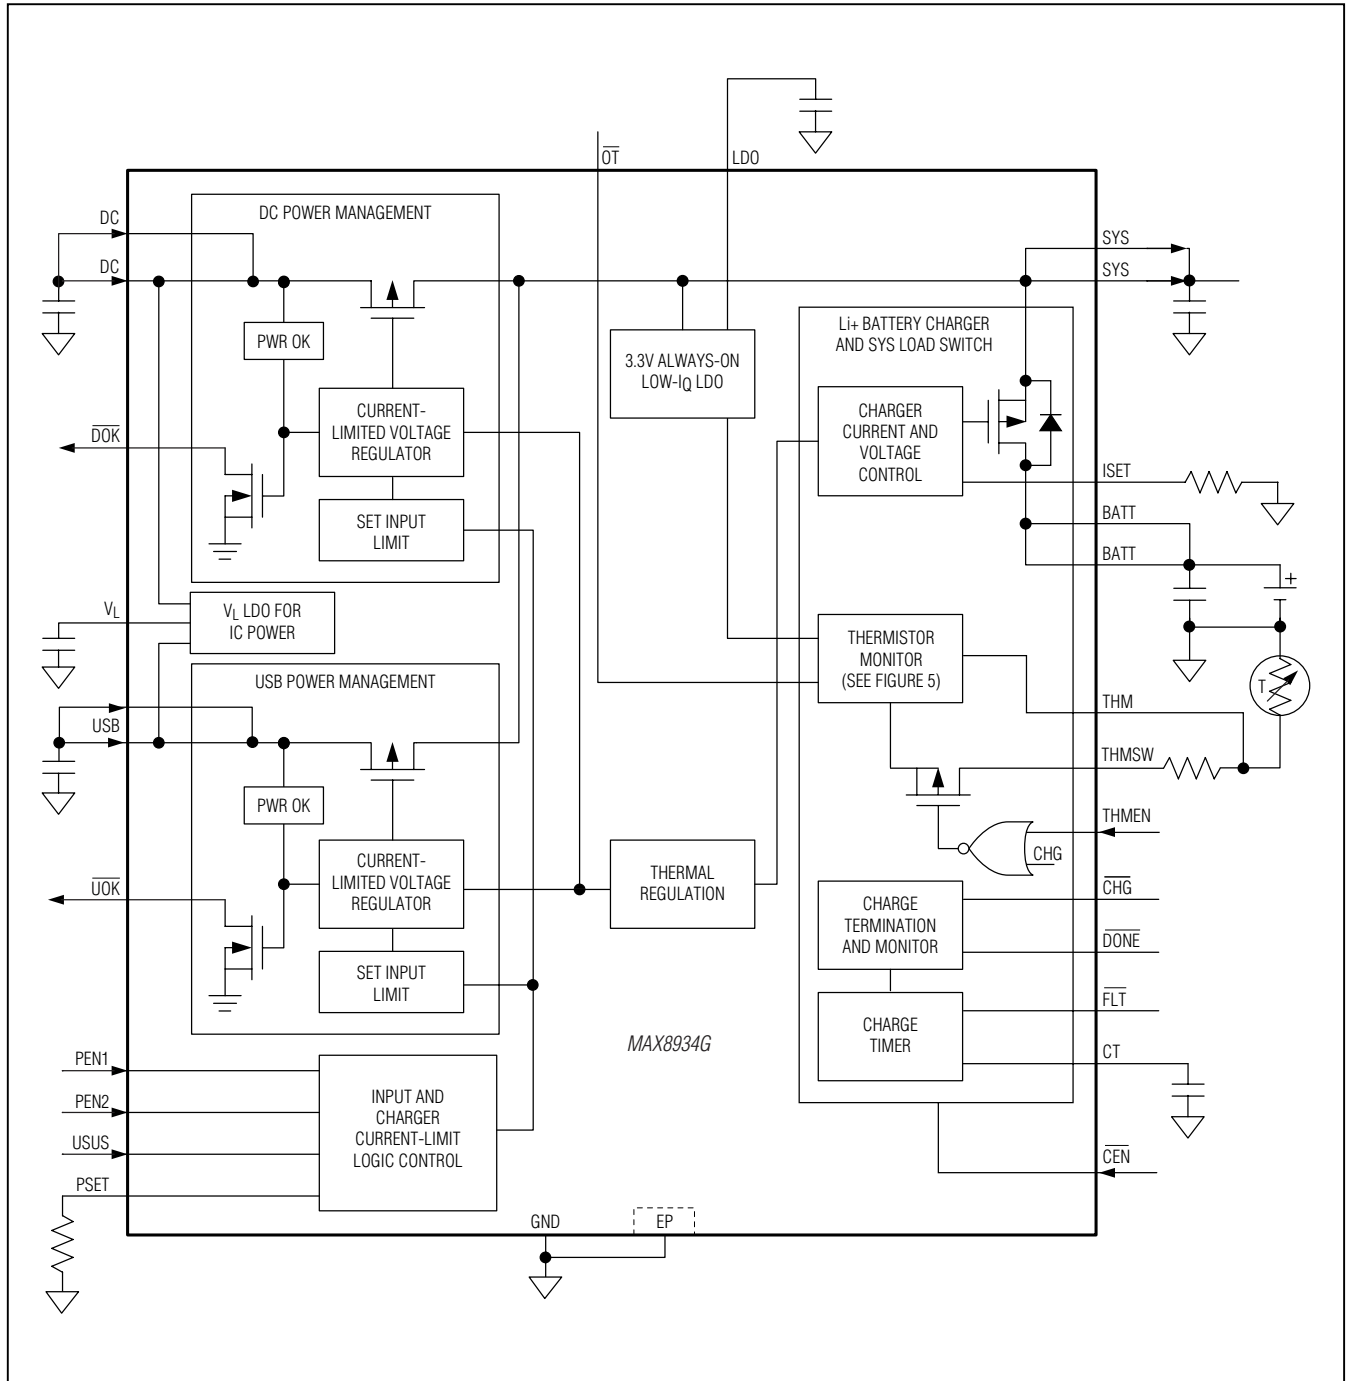
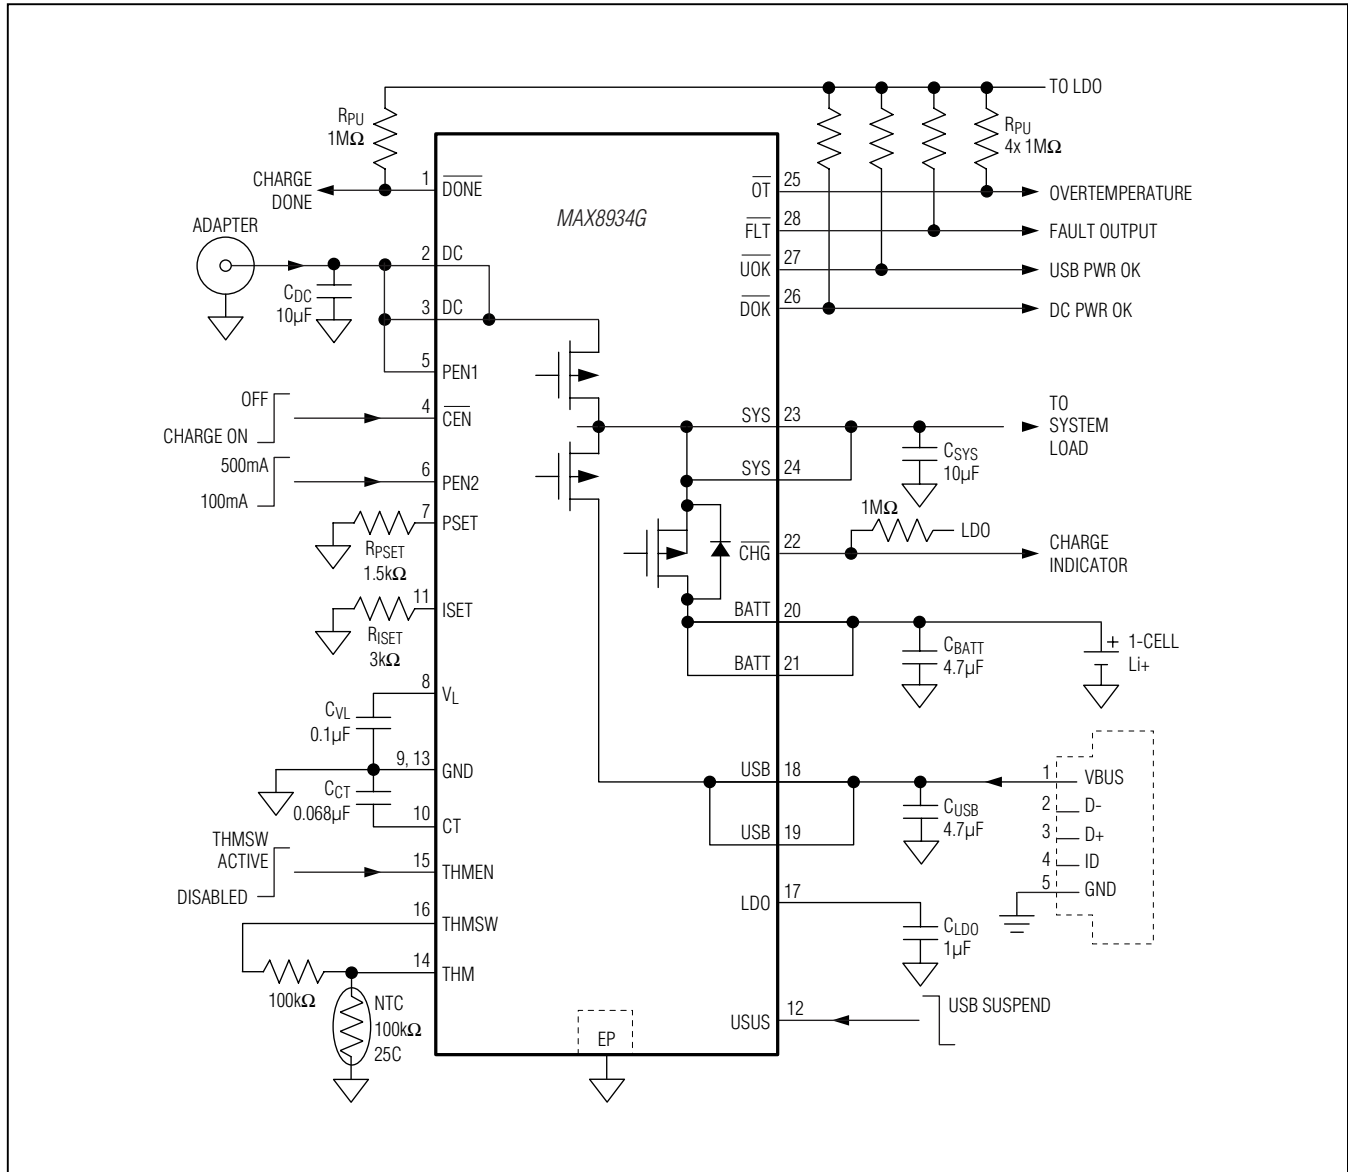

Figure 1. Block Diagram
Figure 2. Typical Application Circuit Using Separate DC and USB Connector
( $T_A = +25^\circ\text{C}$ , circuit of Figure 2,  $V_{DC} = 6\text{V}$ ,  $V_{BATT} = 3.6\text{V}$ , thermistor Beta = 3964, unless otherwise noted. Negative battery current indicates charging.)
**Table 1. External Components List for Figures 2 and 3**
| COMPONENT(Figures 2 and 3) | FUNCTION                             | PART NUMBER                                                                     |
The MAX8934G is a dual-input linear charger with Smart Power Selector that safely charges a single Li+/Li-Poly cell in accordance with JEITA specifications. The MAX8934G integrates power MOSFETs and control circuitry to manage power flow in portable devices. See Figure 1. The charger has two power inputs, DC and USB. These can be separately connected to an AC adapter output and a USB port, or the DC input could be a single power input that connects to either an adapter or USB. Logic inputs, PEN1 and PEN2, select the correct current limits for two-input or single-input operation. Figure 2 is the typical application circuit using separate DC and USB connectors. Figure 3 is the typical application circuit using a 5-pin USB connector or another DC/USB common connector.